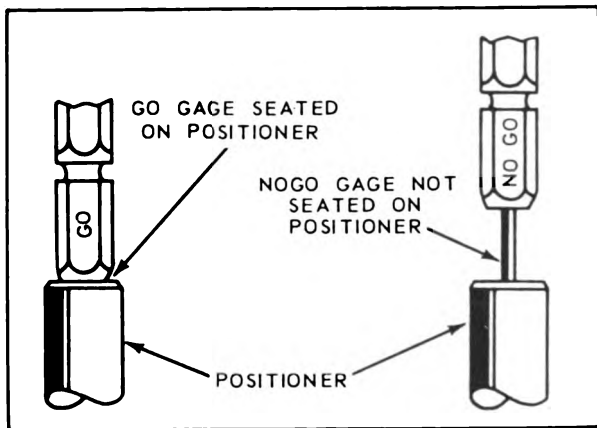

Figure 3-69. Gaging MS3191-1 Crimping Tool
- c. With the tool fully closed, insert the GO gage through the positioner and into the crimping dies. The GO gage should enter the positioner and dies freely so that the gage handle seats firmly on the top of the positioner. (See figure 3-69)